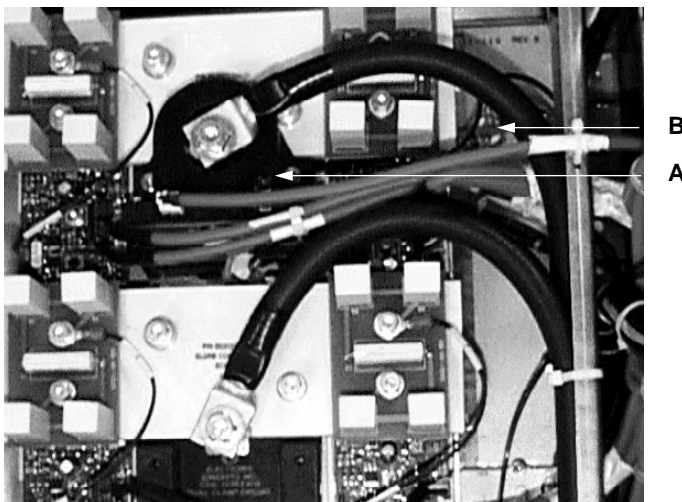

Figure 4.2.53: Temperature Switches
3. The temperature switch is on the bottom of the top motor current sensor. (**A** in Figure 4.2.53 on page 4.2.87). With needle nose pliers, carefully remove the two switch leads.
3. The temperature switch is located in the upper right hand corner of the heatsink (**B** in Figure 4.2.53 on page 4.2.87). With needle nose pliers, carefully remove the two switch leads.